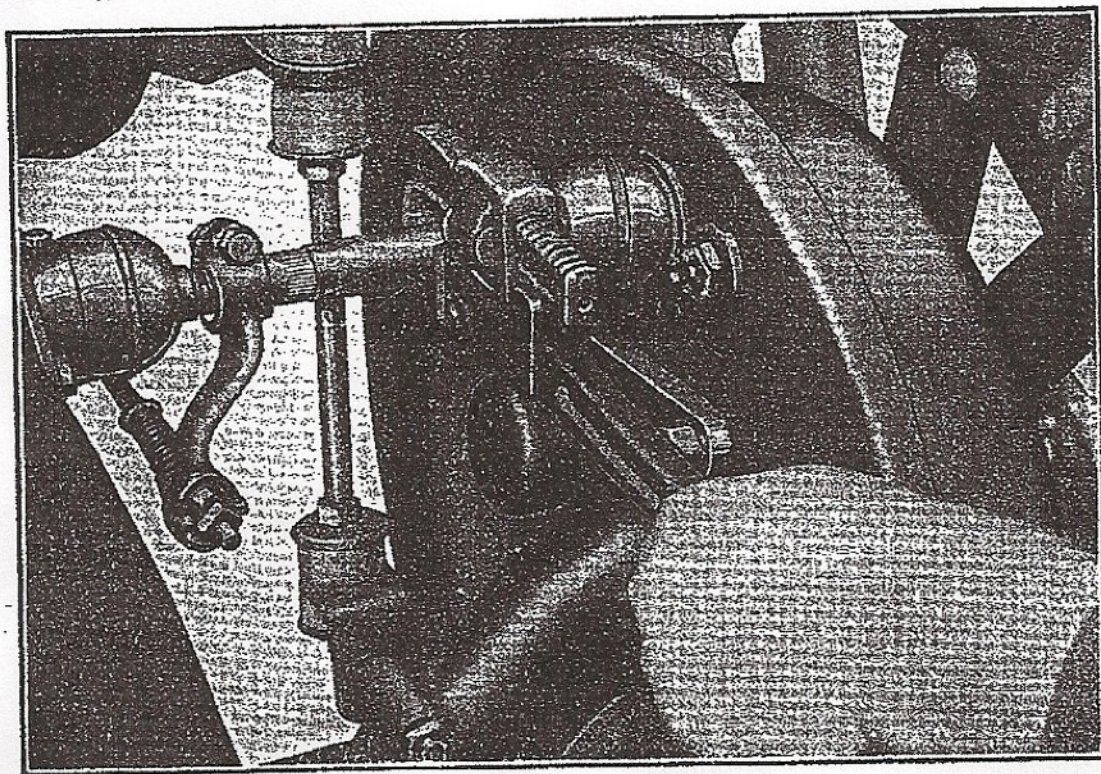
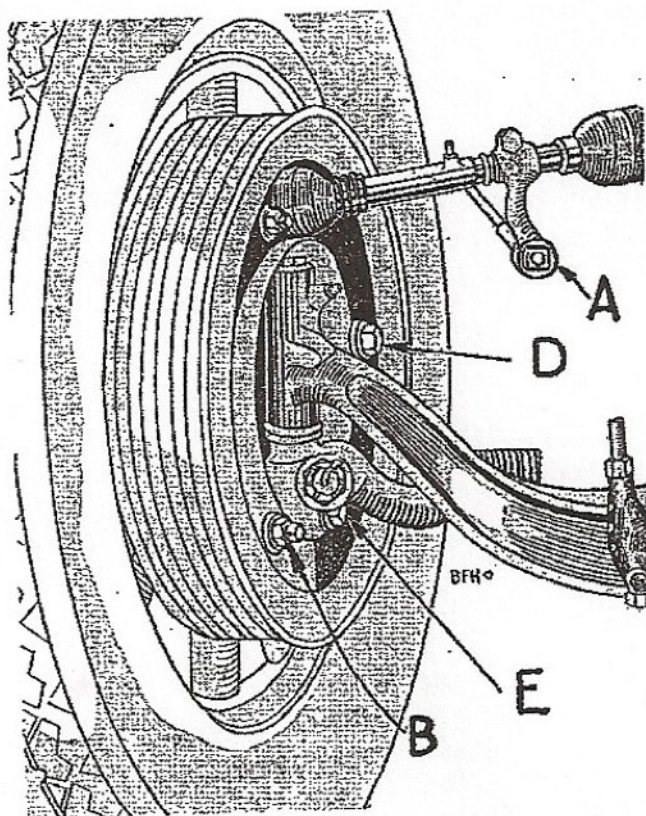

Fig. N20. Applying front brake with pipe wrench for resetting cam operating lever. Note lever is off serrations
Fig. N18. Frame side of backing plate showing various adjustment controls
1. Loosen eccentric adjustment lock nut (B, Fig. N18) and turn eccentric in direction wheel revolves when car moves forward, until secondary shoe is tight against drum. Then back off gradually until wheel is just free.
- (a) Loosen operating lever clamp bolt (Fig. N20) and slide lever off serrations.
- (b) Back off on ball adjusting nut at end of pull rod. Now apply brake with an 8-inch pipe wrench (as shown in Fig. N20) and slip control lever back on serrations.
3. Take up on square ball nut (A Fig. N18) until wheel just drags. Back off until just free. Repeat on other three wheels.
6. To adjust anchors: Jack up all four wheels. Turn eccentric adjustment (B, Fig. N18) away from articulating pin and leave loose. Slacken anchor pin nuts free of lock washer. Tap both anchors out toward edge of drum as in Fig. N11. Hold brake on tight by 100-pound load on the end of a 10-in. pipe wrench. See Fig. N20. Tap anchor on end and